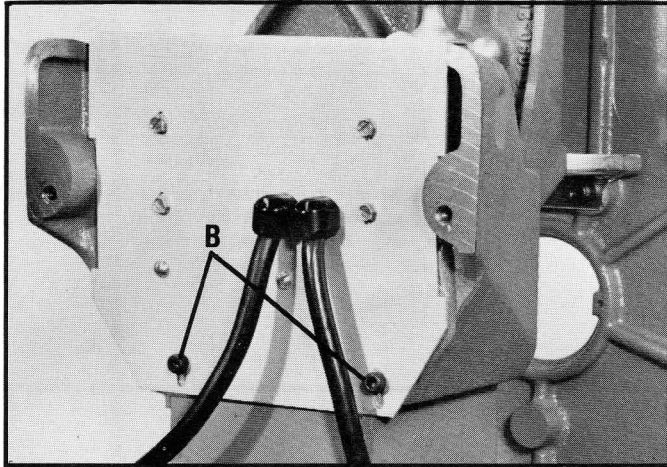

Fig. 36
3. Remove two screws (B) Fig. 36.